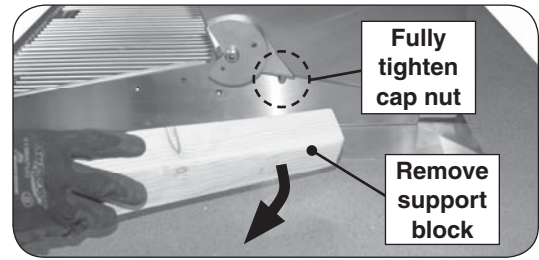

Fig. 4-1 Secure bracket screw & remove block
10. Fully tighten the cap nut using a $\frac{3}{8}$ " wrench, then remove the support block (see Fig. 4-1).